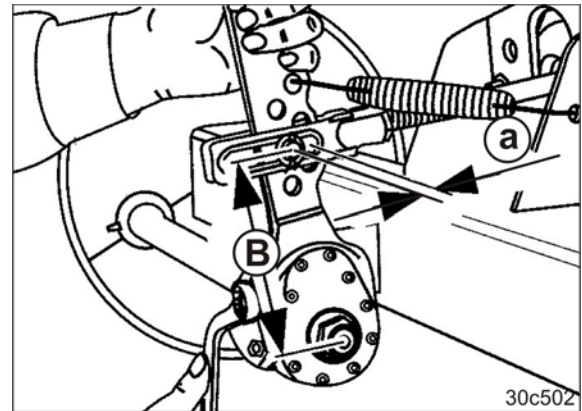

Fig. 291
1. Manually actuate the slack adjuster (Fig. 291) in the push direction.
2. Measure the stroke (Fig. 291/a) of the long-stroke diaphragm cylinder push rod.
The stroke (Fig. 291/a) can be a maximum of 35 mm.
Adjust the stroke (Fig. 291/a) to 10-12 % of the brake lever length (Fig. 291/B).